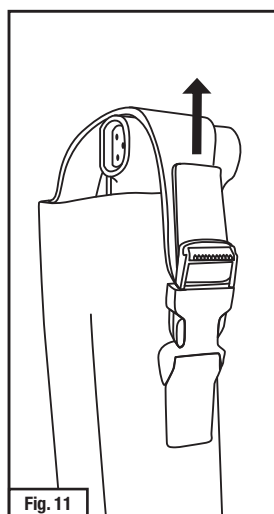

Fig. 11
4. With the adapter and battery fully inserted into lower portion of holster, snap the buckle connecting the upper flap and lower portion of the holster. Pull the leather strap located on the buckle to tighten top of holster for a snug fit (Fig. 11). Ensure that adapter indicator light can be seen through one of the two holes located on the strap of the holster (Fig. 12).